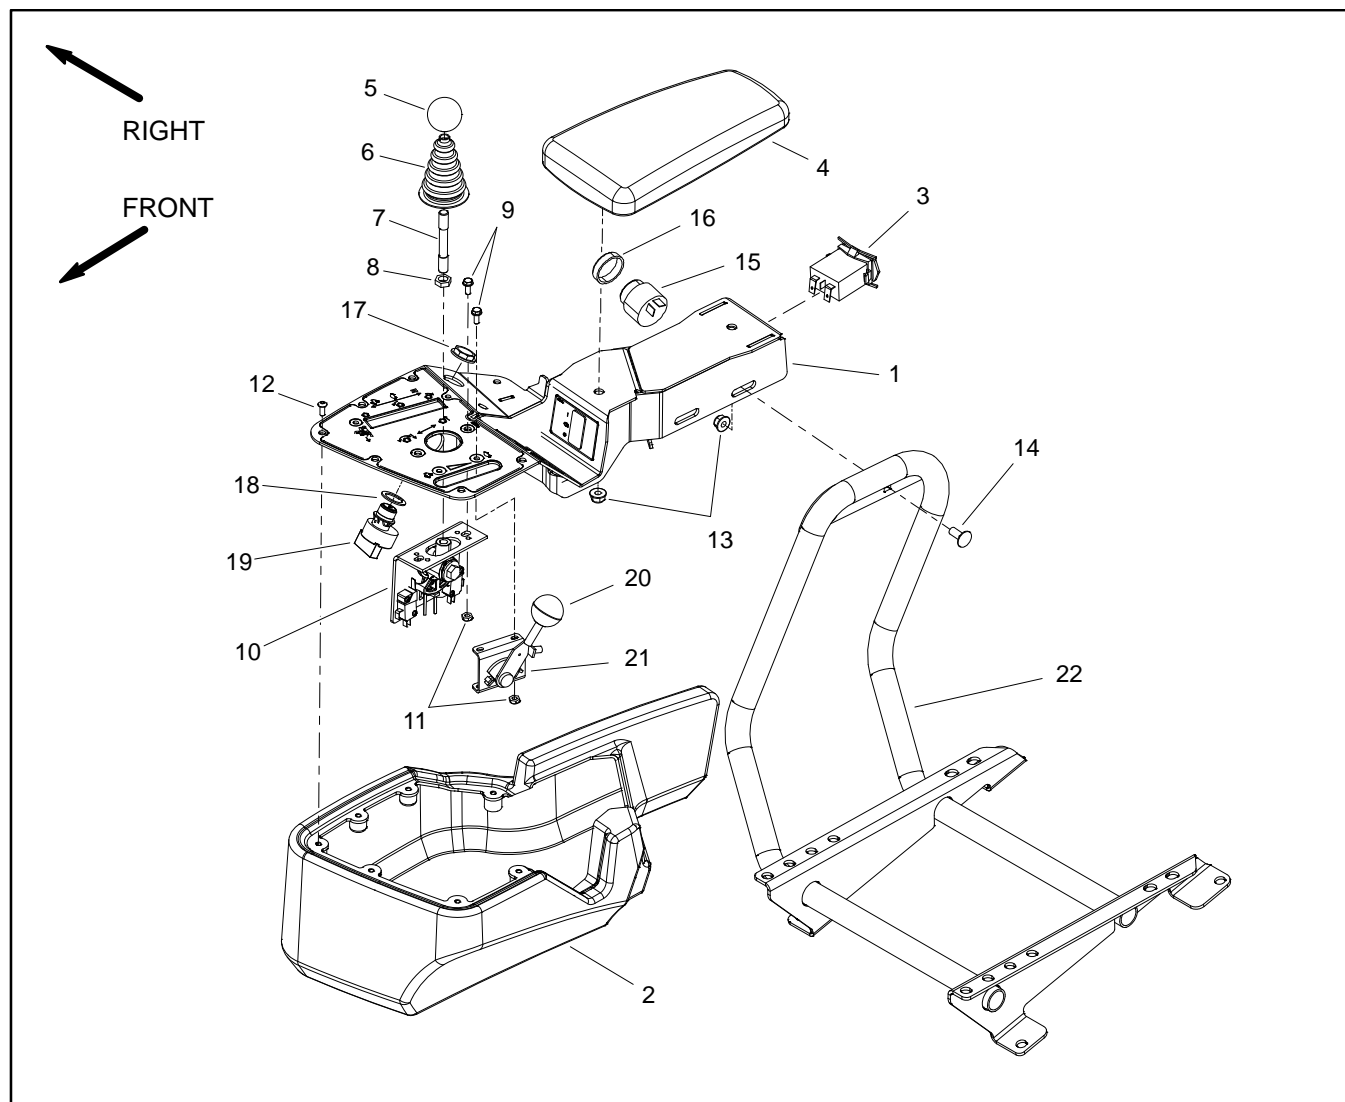

Figure 12
### Disassembly (Fig. 12)
2. Remove screws (item 12) that secure console cover (item 2) to console. Lower cover to allow access to console components.
3. Remove components from control console as needed using Figure 12 as a guide.
### Assembly (Fig. 12)
3. Install all removed components to control console using Figure 12 as a guide.
4. Position console cover (item 2) to console and secure with screws (item 12).